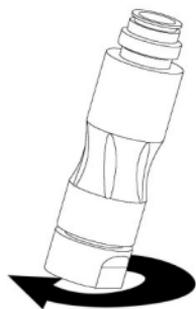

Figure 1
Step 1: Unscrew the two halves of your Gladiator (by hand) as shown in figure 1. **NOTE:** There is a white grease on the threads inside your Gladiator – do not wipe this off.